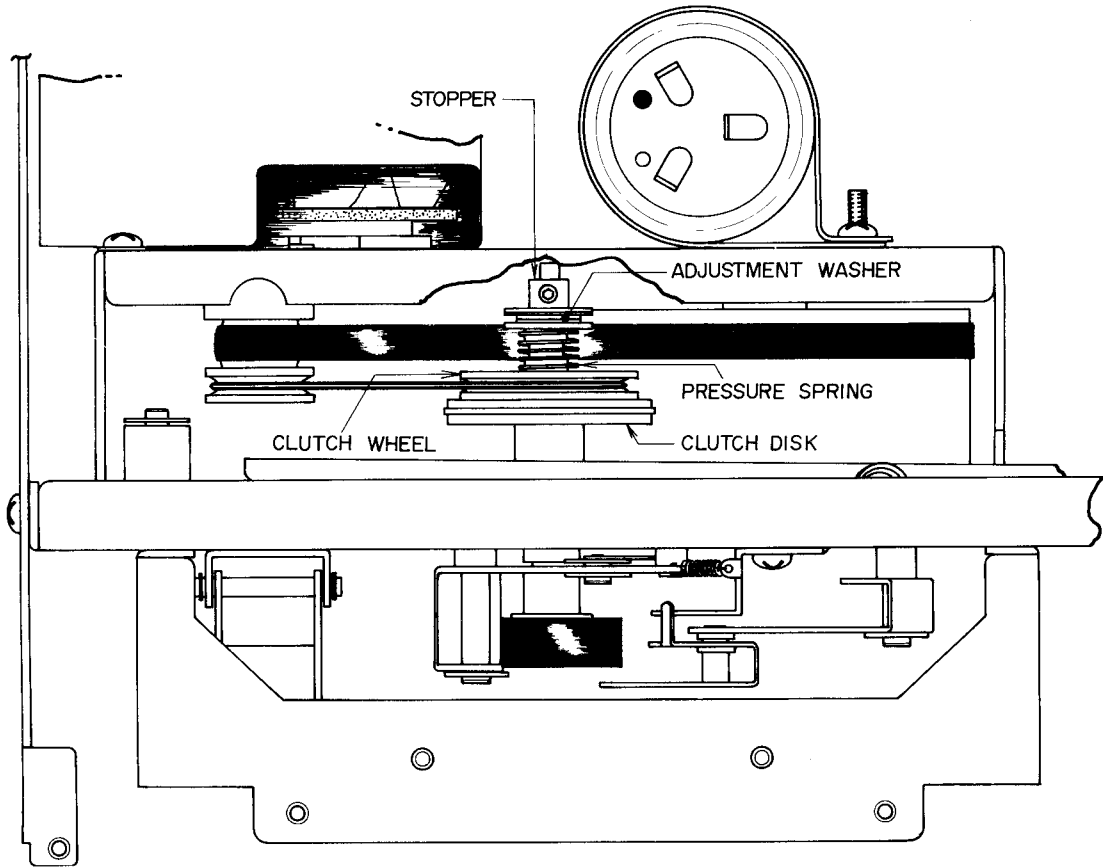

Fig. 1
1. FAST FORWARD AND REWIND TORQUE MEASUREMENT (Refer to Figs. 1 and 2)